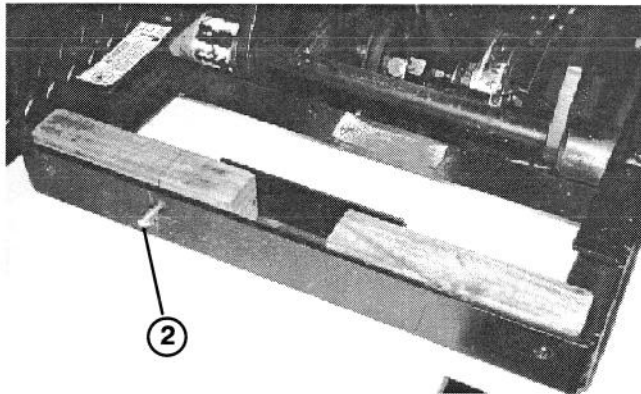

Figure 17
6. Remove retaining pins securing safety blocks to side of lift frame (Fig. 17).